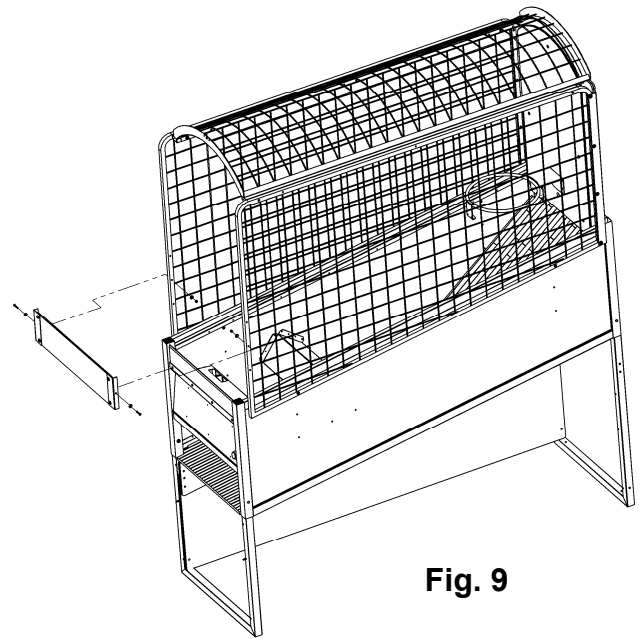

Fig. 9
Install the rebound guard to the front of the game using (2) 1/4-20 X 1 1/2" button head screws, (4) flat washers and (2) Nylock nuts. (See Fig. 9)